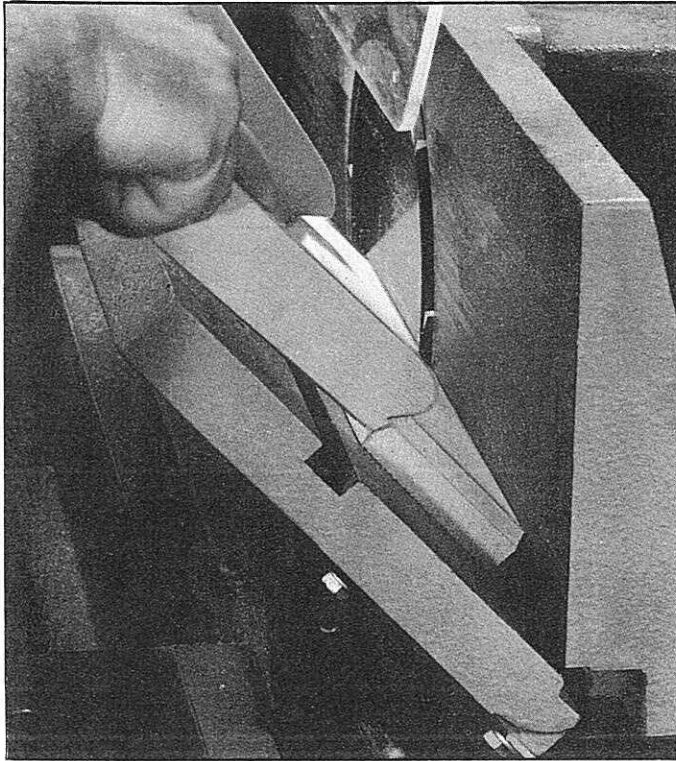

Fig. 40.
7. When chamfering sides, note how the tilted table forms a "V" with the fence, as shown in Fig. 40.
8. When chamfering the sides of narrow pieces, always use push sticks, as shown in Fig. 40.